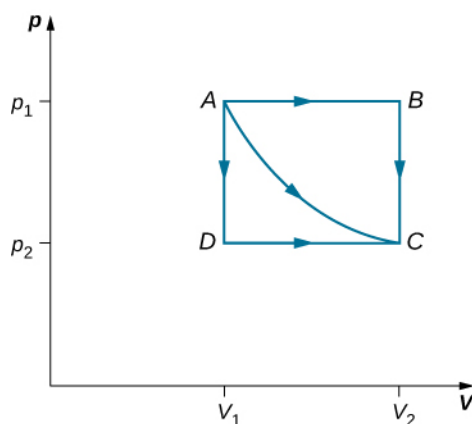

Figure 3.6 The paths ABC , AC , and ADC represent three different quasi-static transitions between the equilibrium states A and C .
Consider the two processes involving an ideal gas that are represented by paths AC and ABC in **Figure 3.6**. The first process is an isothermal expansion, with the volume of the gas changing its volume from V_1 to V_2 . This isothermal process is represented by the curve between points A and C . The gas is kept at a constant temperature T by keeping it in thermal equilibrium with a heat reservoir at that temperature. From **Equation 3.4** and the ideal gas law,
A comparison of the expressions for the work done by the gas in the two processes of **Figure 3.6** shows that they are quite different. This illustrates a very important property of thermodynamic work: It is *path dependent*. We cannot determine the work done by a system as it goes from one equilibrium state to another unless we know its thermodynamic path. Different values of the work are associated with different paths.
3.1 Check Your Understanding How much work is done by the gas, as given in **Figure 3.6**, when it expands quasi-statically along the path ADC ?